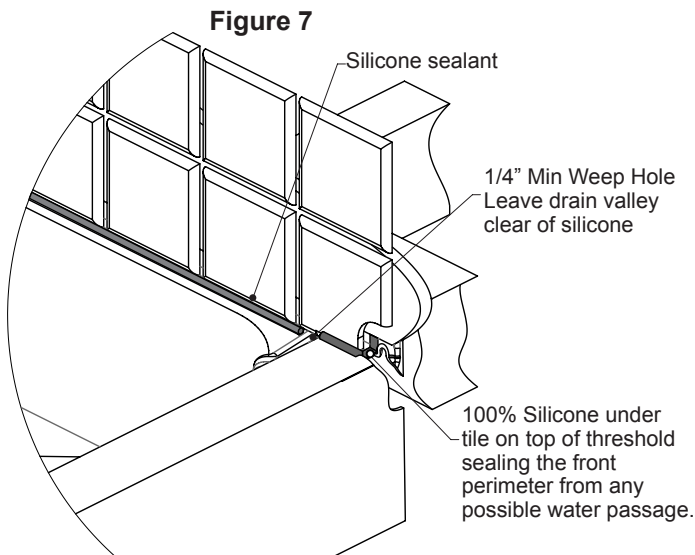
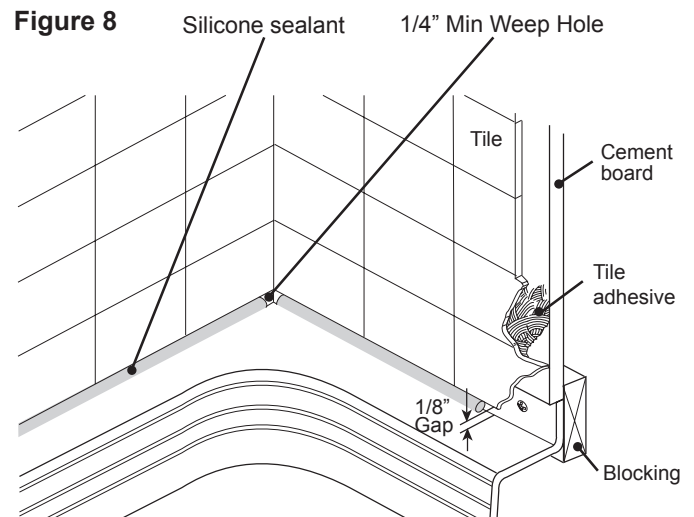

Figure 7
Figure 8
- 9** Apply tile, or other finishing material, leaving a 1/8" gap between the finishing material and the flange lip of the shower base, see Figure 8. Seal this gap with a silicone sealant. Leave a minimum 1/4" weep hole at the back and front corners of the shower base, see Figures 7 and 8. Add 100% silicone under the tile and backer board on top of the threshold only, see Figure 7. Refer to local building codes for proper finishing or other trades.